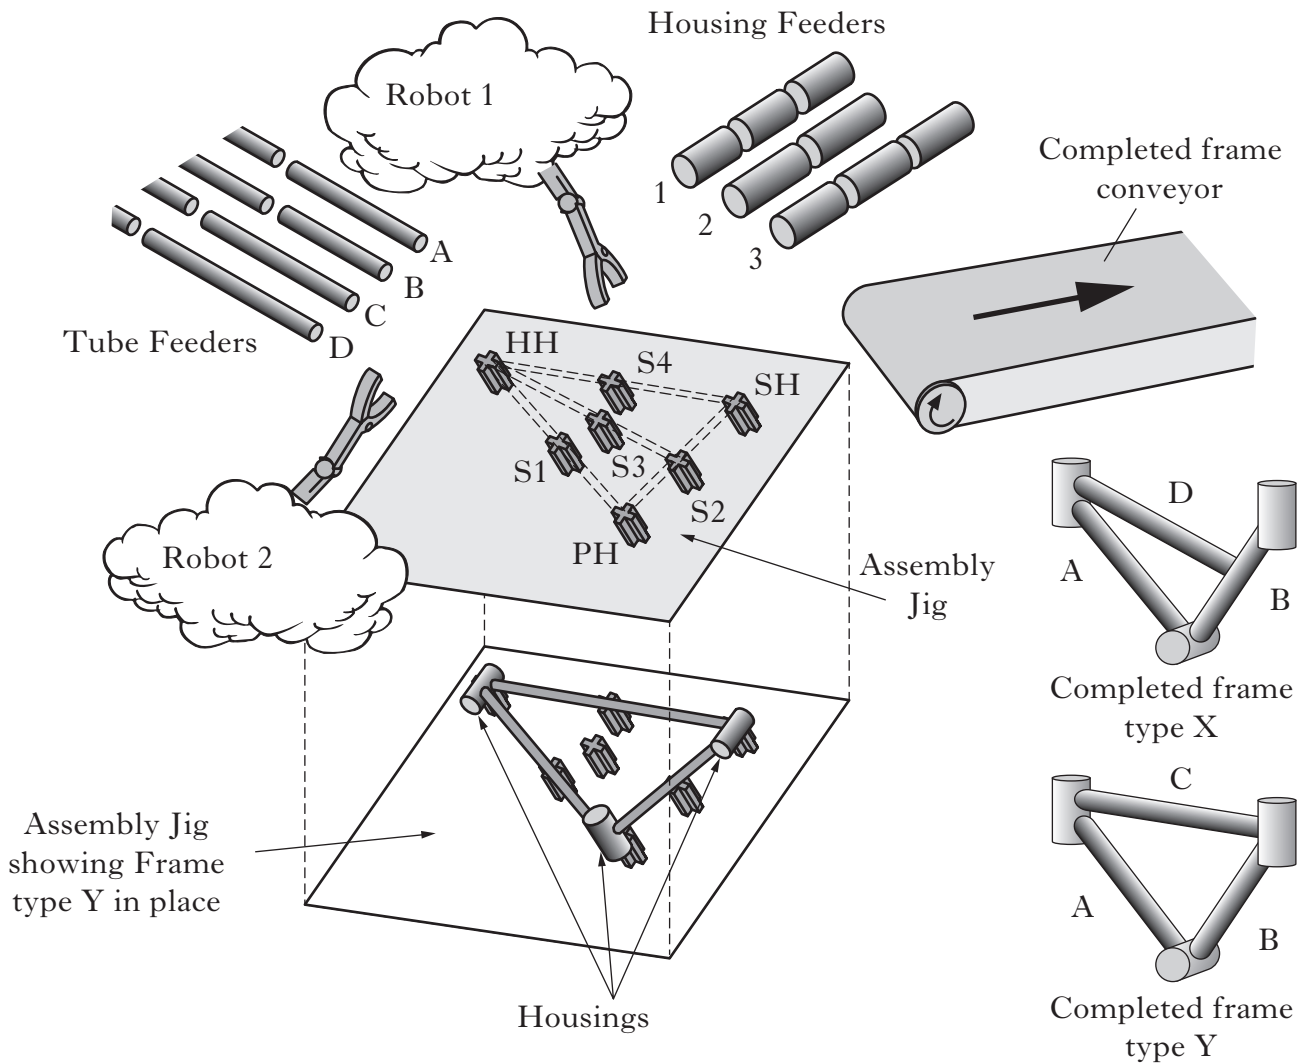

Figure Q12
12. Figure Q12 illustrates a schematic diagram of a fully automated bicycle frame assembly station.